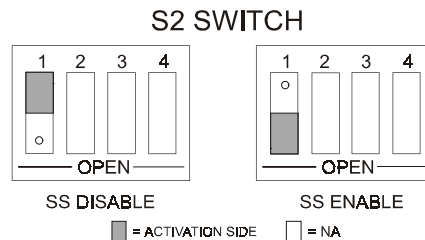

Figure 26 - SOFT START BY LOW TENSION SWITCH SETTINGS
- a. No external electrical connections are needed for actuation. Set S2 (on control card) switch as in Fig. 26.